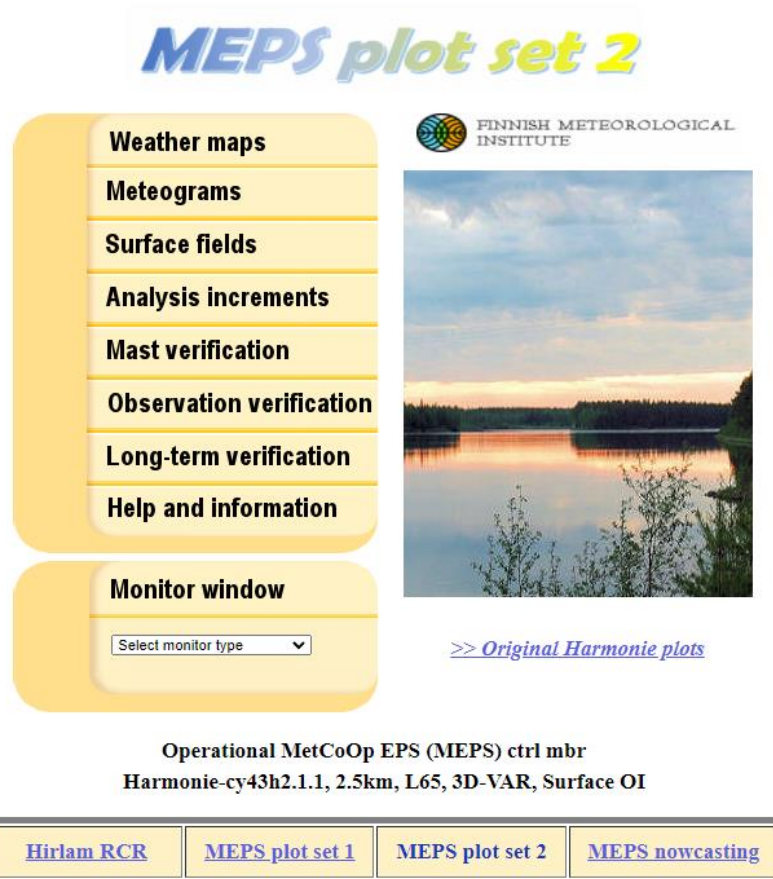

Figure 2. One of several locations in MetCoOp web domain where operational visualisations can be seen.
3. Further develop and apply FMI diagnostic monitoring tools operationally in MetCoOp (see Figure 2).